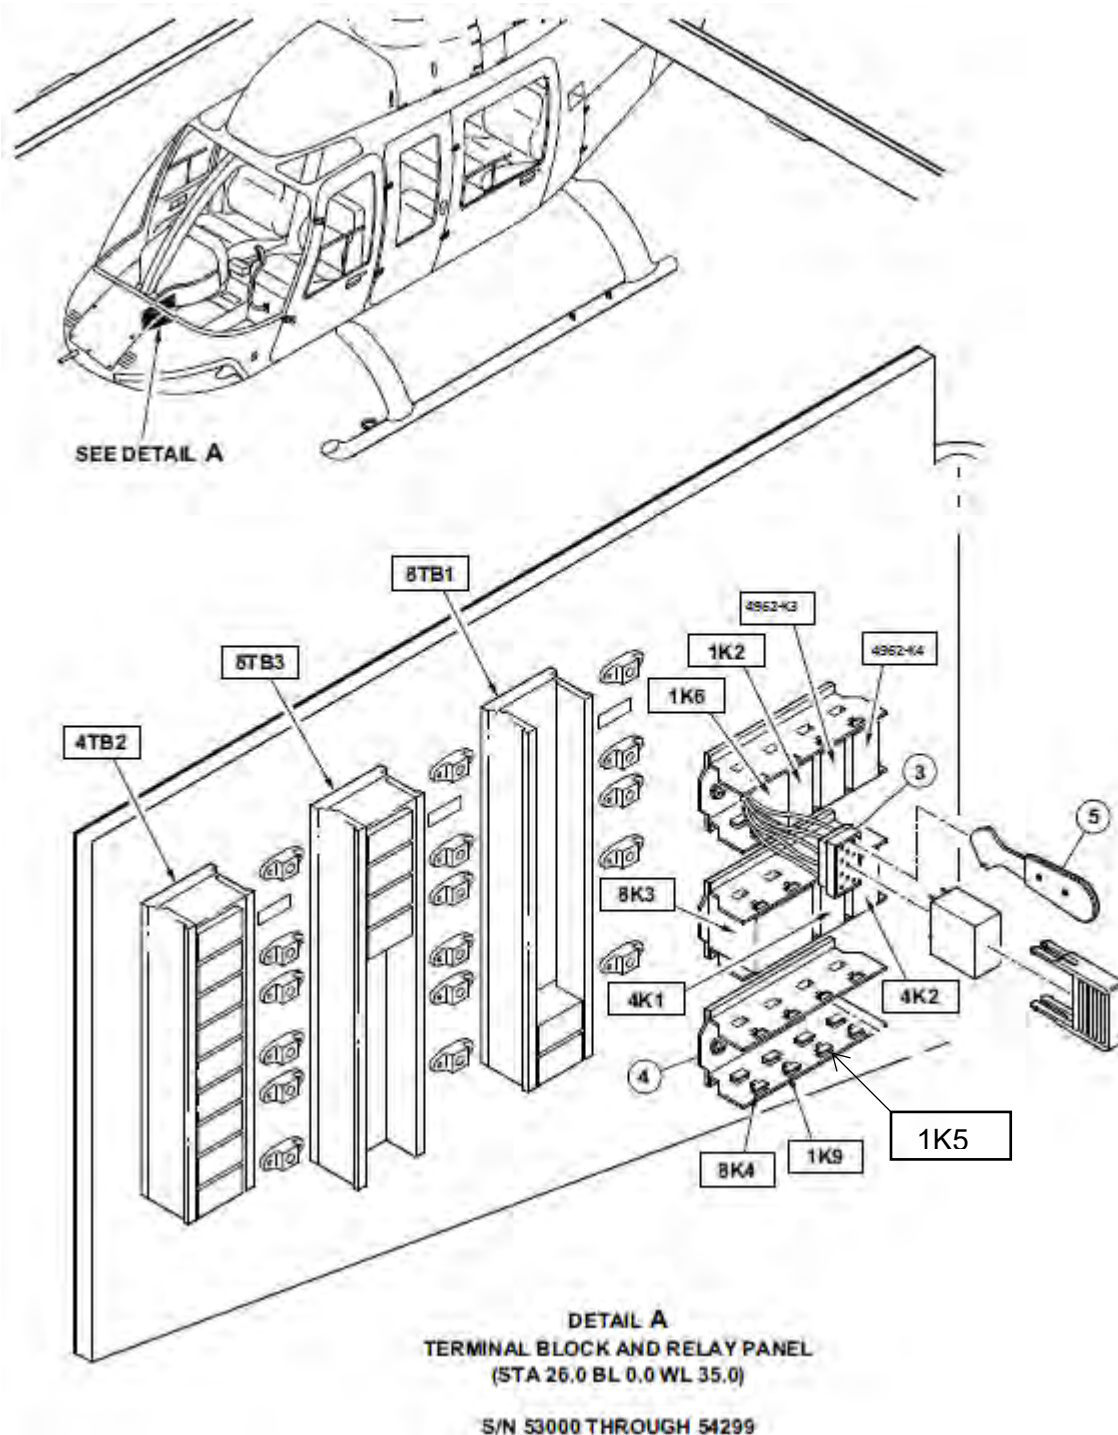

Figure 96-67: FADEC FAIL Relay (1K5), (4962K3) and (4962K4) – Removal and Installation
2. To gain access to the FADEC fail relays (1K5), (4962-K3) and (4962-K4) (2, Figure 96-67); remove the left forward instrument console access cover.
3. Push the relay removal tool (M6106/31-001) (1) over the FADEC fail relay (1K5) (2). This will unlatch and grasp the relay.
4. Pull the FADEC fail relay (2) out of the relay base (3) with the relay removal tool (M6106/31-001) (1).
5. If required, remove the relay base (3) with the relay base removal tool (M6106/32-001) (5) as follows:
- a. Insert the relay base removal tool (M6106/ 32-001) (5) under the relay base (3) and extend the rail (4).
- b. Push the relay base (3) out of the rail (4).
1. Correctly position the relay base (3, Figure 96-67) on the rail (4) and apply finger pressure until it latches into place.
2. Correctly position the FADEC fail relay (1K5) (2) on the relay base (3) and apply finger pressure until it latches into place.